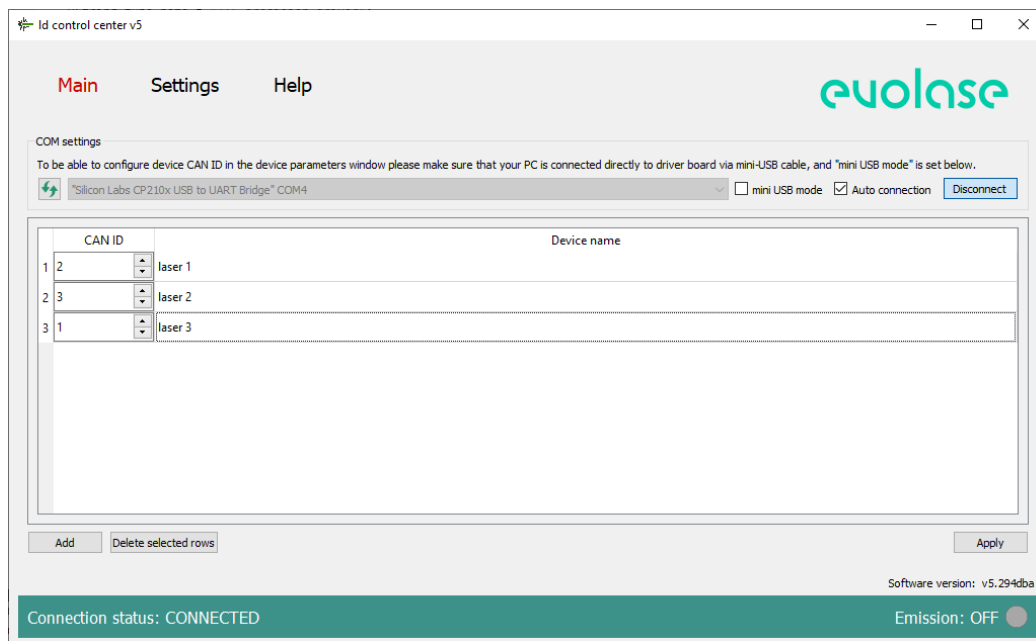

Figure 6: The system configuration menu
3. Click “Settings” to enter the program configuration menu (fig. 6).